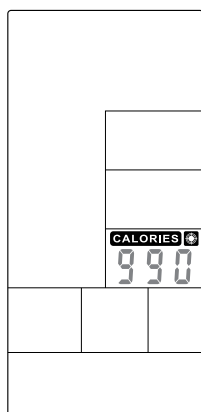

Figure 43
- ⑧ Press any PROGRAM key then perform the program accordingly.
- ① In Standby mode, press Target Calories key and **CALORIES** will light up, along with a long sound for 1s.
- ② CALORIES value is flashing, press UP and DOWN to adjust (Figure 43). Press ENTER to confirm meanwhile buzzer beeps 1s and **CALORIES** lastly lighting up